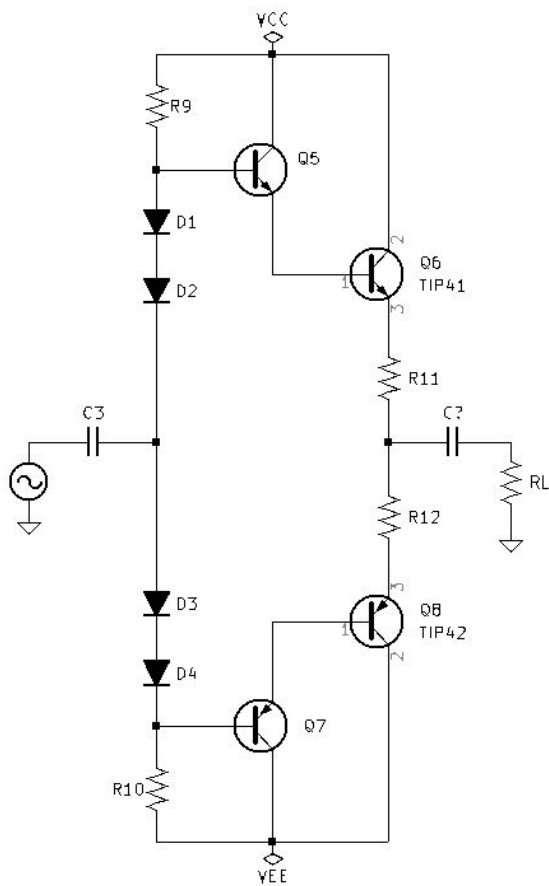

Figure 5.1: Push Pull Amplifier.
1. See Figure 5.1 *Push Pull Amplifier* on page 47.